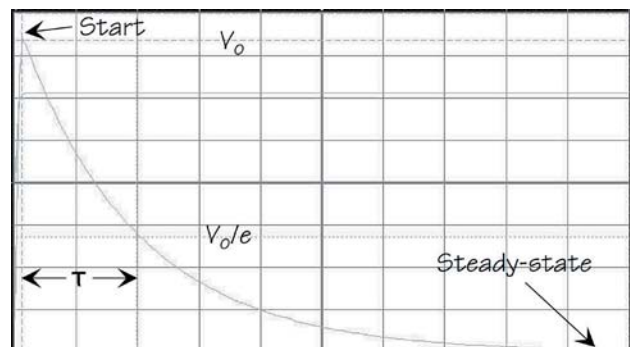

Fig. 7—Current rise time
7. Calculate C once more. [Clue: Data in Fig. 7 yield a time constant of $18.65 \mu\text{s}$.]